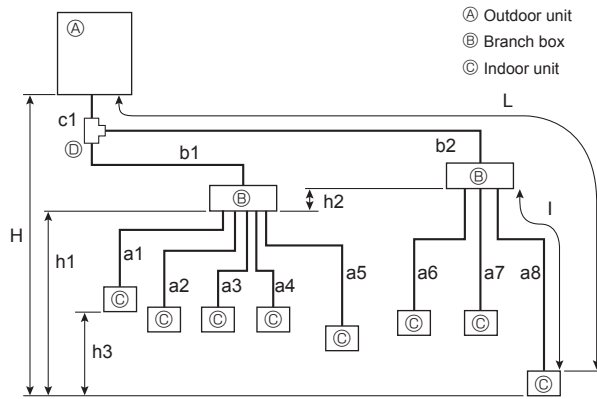

Fig. 5-16
(1) Connection with Branch Box (Fig. 5-16)